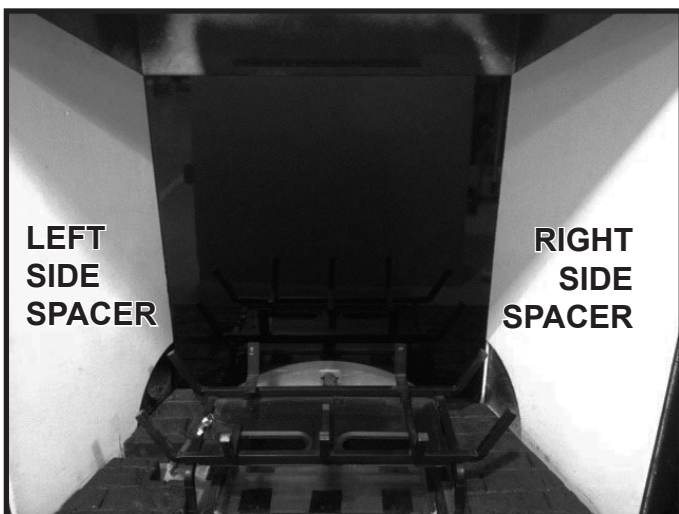

Figure 11.13 Installed Black Glass Rear Panel
7. Place back glass panel with arched portion down into the rear of the appliance. See Figure 11.13. Slide the white side spacers toward the rear of the appliance until they contact the rear glass panel.